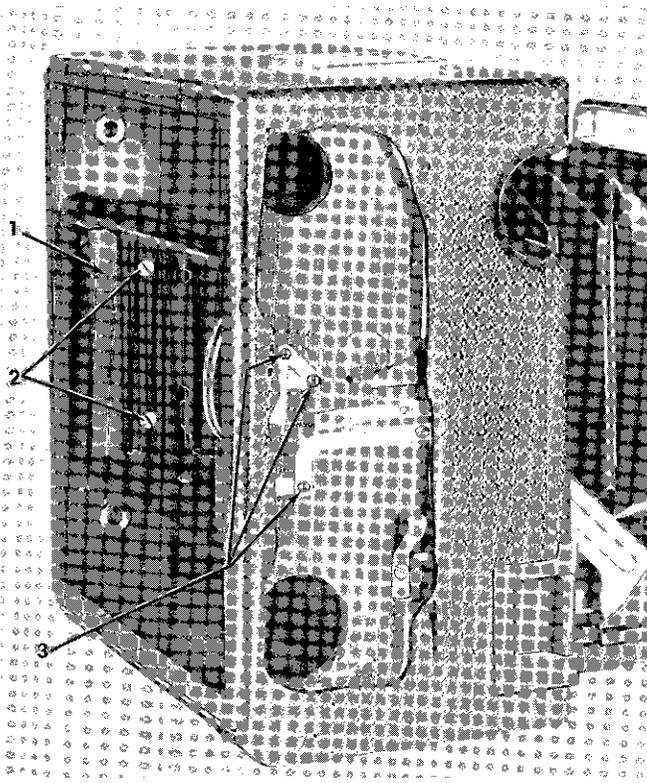

Figure 7. "23" Speed Contact Frame
Note: If it is found difficult to remove the frame and contact assembly do not attempt to force the frame out. This can be remedied by removing the shutter plate (4, figure 2), as described in paragraph IV. A. 1. and partially unscrewing the contact screws (3, figure 7).
(c) On "23" and "34" cameras: Replace the frame and contact assembly (1, figure 7) and assemble four wood screws (2).